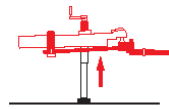

Figure 31
4. Extend your trailer jack to lift the weight off the hitch spring bars. (Figure 31)